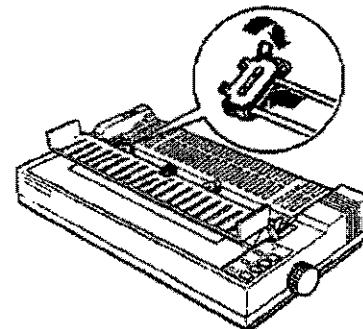

Figure 7
2. Open both sprocket covers. Left sprocket unit position should be as far left as possible and locked in place. Right sprocket unit position should be adjusted only if necessary as described in step 4. Make sure the paper support is midway between sprocket units (Figure 7).